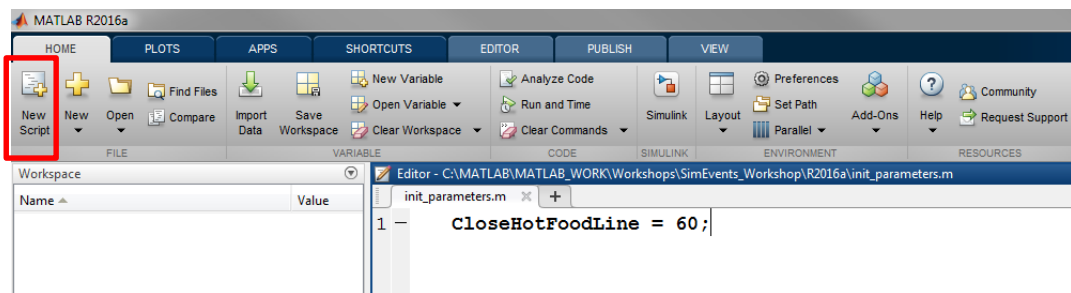

Figure 36: MATLAB script for init_parameters.m
2. Create a MATLAB script called ‘init_parameters.m’ and save it to the same directory as the model. Also ensure that the current working directory of MATLAB is within this same folder (check your “Current Folder” window in the desktop), otherwise Simulink will not be able to find this script. The script should contain the following line of code (Figure 36):